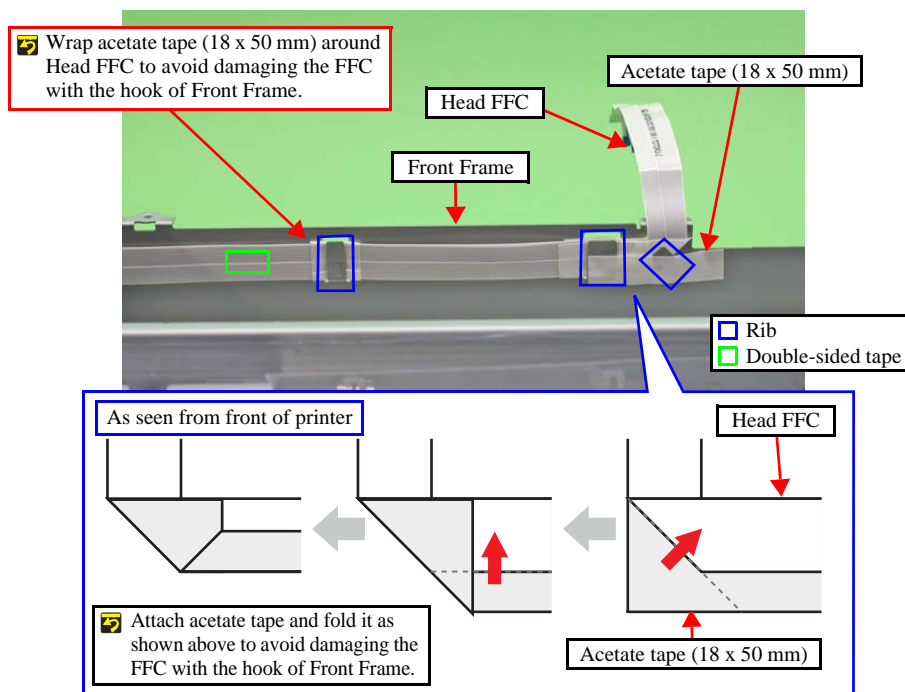

Figure 8-21. Removing the CR Unit (1)
- When installing the CR Unit, route the Head FFC through the ribs (x3) of the Front Frame, and secure it with acetate tape and double-sided tape. (See Figure 8-21.)
- After installing the Head FFC as shown, move the carriage several times and confirm that the FFC is free from too much tension or slack. (See Figure 8-21.)
- Before routing the Head FFC along the Front Frame, wrap acetate tape on the two positions as shown in Fig. 8-21 to avoid damaging the FFC with the hooks of the Front Frame.
- When routing the Head FFC, secure the FFC with acetate tape as shown in Fig. 8-21.